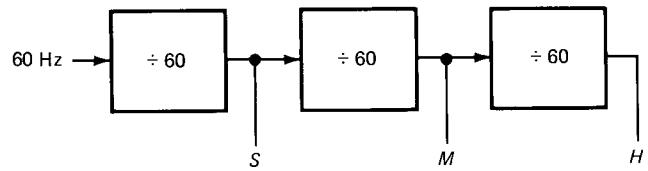

Fig. 8-33
- 8-14.** In a digital clock, the 60-Hz line frequency is divided down to lower frequencies, as shown in Fig. 8-33. What are the frequency and period of the S output? Of the M output? Of the H output?
- 8-15.** You have an unlimited number of the following ICs to work with: 7490, 7492, and 7493. Which of these would you use to build the divide-by-60 circuits of Fig. 8-33?